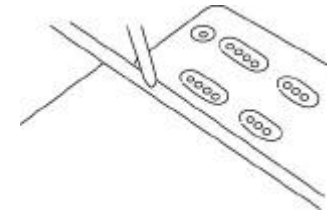

Figure 12
- 4.3) Slide in the CD-ROM, screw on the 3.5" bracket and frame. (See Figure 12)